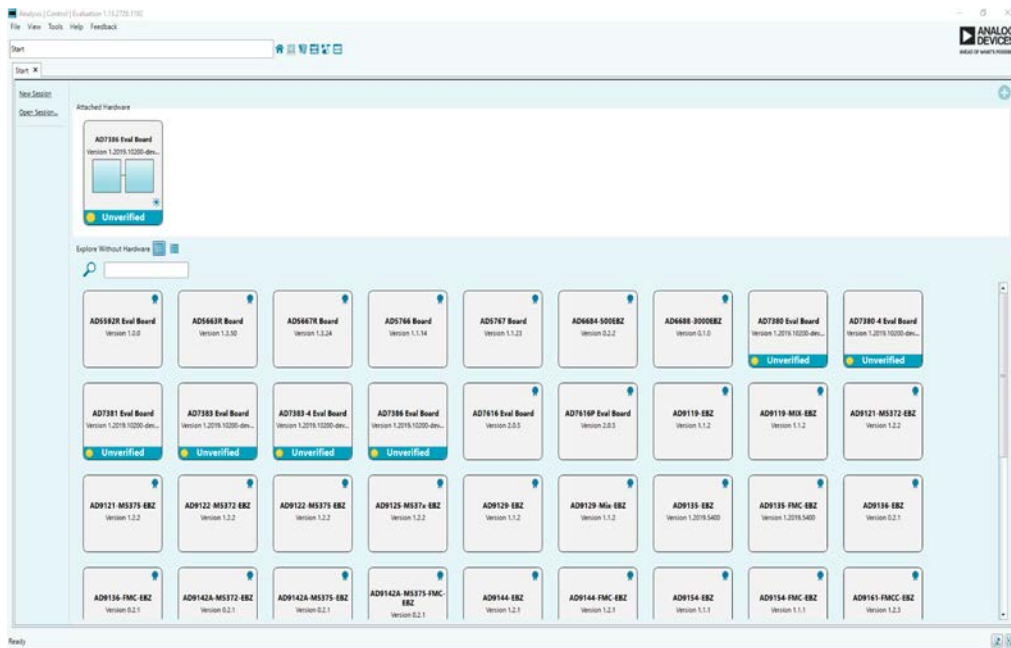

Figure 12. ACE Evaluation Software Main Window
1. From the **Start** menu, select **All Programs > Analog Devices > ACE > ACE.exe**, which opens the window shown in Figure 12.